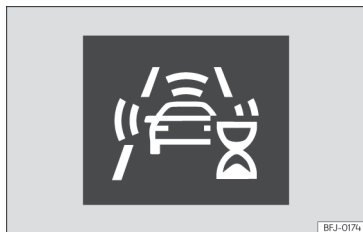

Fig. 145 On the instrument cluster screen: indication of the system's initial self-calibration.
- In the first few instants of driving after switching on the ignition, due to the system's initial auto-calibration. During this period, a status icon »» Fig. 145 is displayed.